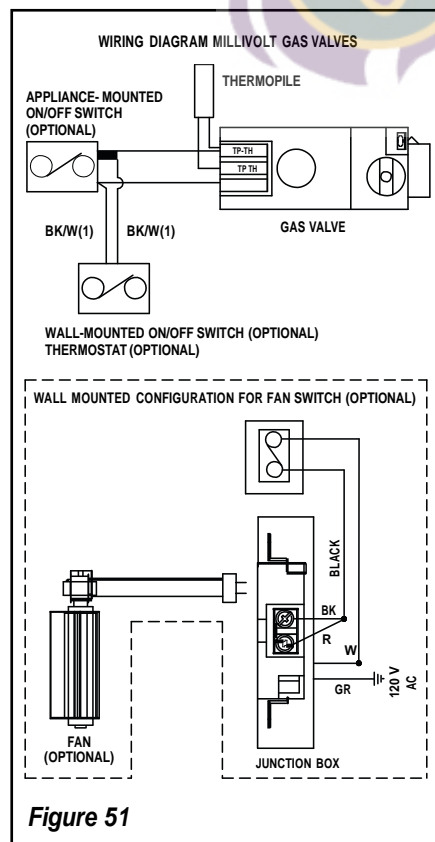

Figure 51
A. Millivolt Wiring (See Figure 51) –
Install Optional Control Switch (OFF/ON wall switch, wall thermostat or remote control receiver). Install snap bushing (provided in Electrical Outlet Kit) into control switch knockout in side panel (see Figures 17 through 20 and 53). Wire the optional control switch within the millivolt control circuit (as shown in Figure 51) using the 15 feet of 2 conductor wire supplied (route wires through the snap bushing to the optional control switch). Mount the optional control switch or wall thermostat in a convenient location on a wall near the fireplace.
4. Wire and install the outlet receptacle to junction box, then install into the chosen corner of the control compartment as shown in Figures 51, 52 and 54.